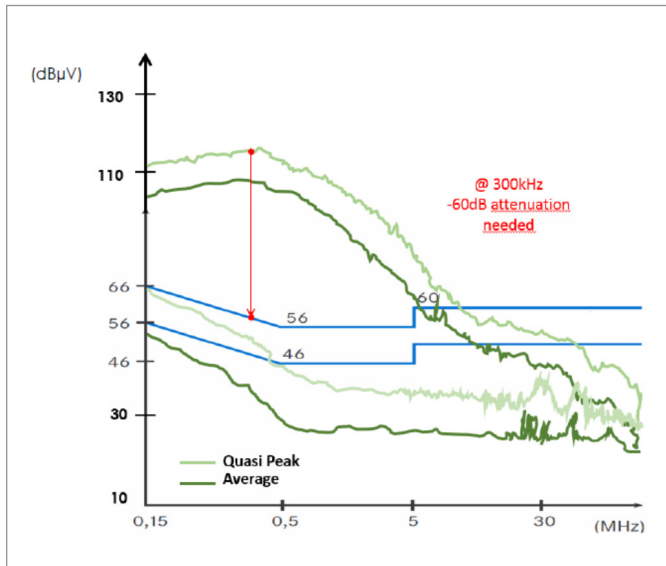

Figure 3. Typical Conducted Emission Data Scan.
- Best Option:** If possible, provide a conducted emission scan with and/or without a filter to see the "real" noise profile over the complete frequency range such as shown in *Figure 3*.
- Second Option:** If a complete scan is not available, then select a minimum of four frequencies such as 150 kHz, 1 MHz, 10 MHz, and 30 MHz as an example and a level of attenuation at each of these frequencies. In the example of *Figure 3*, if the complete scan was not available to us, but we know that the noise at 300 kHz requires about 60 dB of attenuation to meet the specification.
- Third Option:** Specify a low level of attenuation (low being <20 dB attenuation), mid-level attenuation (mid being 20-40 dB of attenuation) or hi (hi being >40 dB attenuation). Again, using the example of *Figure 3*, one might define the attenuation desired from 150 kHz to 5 MHz as "hi" level and then from 5 MHz to 30 MHz as needing <20 dB of attenuation. If you are not sure as to what you need, then specify a high attenuation (>40 dB) filter.